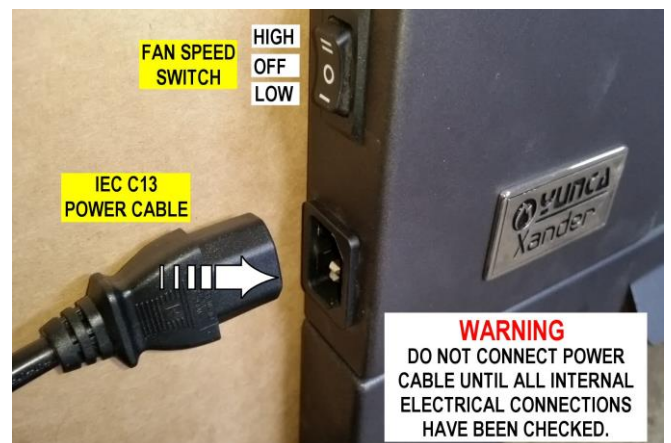

Fig. 14
- S4.** Mount the Fan unit and hearth to the fascia (Fig. 14) by securing the two screws as shown.